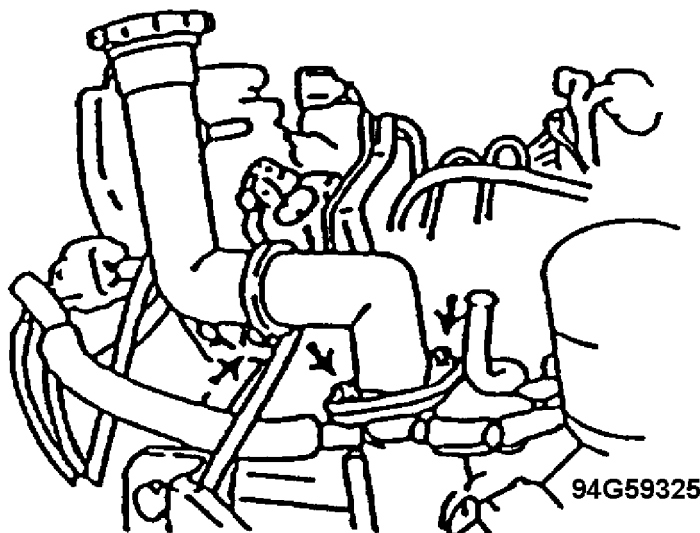

Fig. 12: Oil Filler Pipe Identification
20. Remove the oil filler pipe. See Fig. 12.